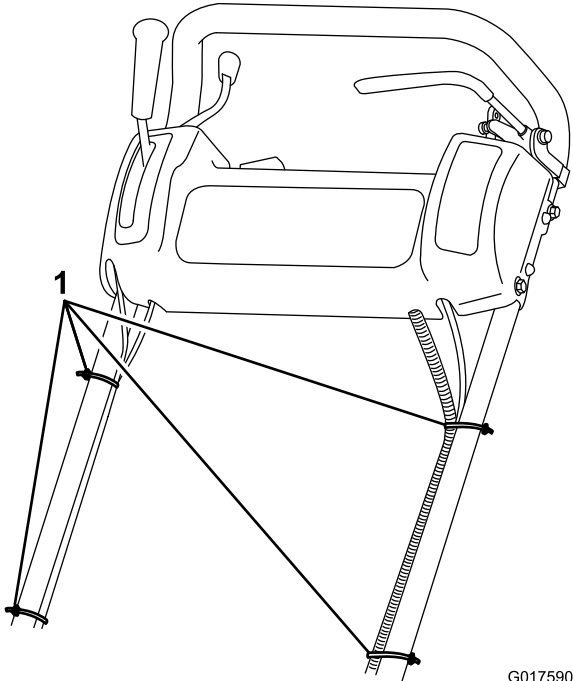

**Figure 2**
1. Remove the bolts, locknuts, and washers securing the bottom of the handle arms to each side of the machine (Figure 2).
2. Remove the hairpin cotters and the ring pins securing the handle arms to the rear of the frame (Figure 2).
3. Insert the handle ends through the holes in the handle arms and align the holes with the mounting pins (Figure 2).
1. Remove the hairpin cotters from the ring pins on each side of the machine (Figure 2).
2. While supporting the handle, remove the ring pins from each side and raise or lower the handle to the desired operating position (Figure 2).